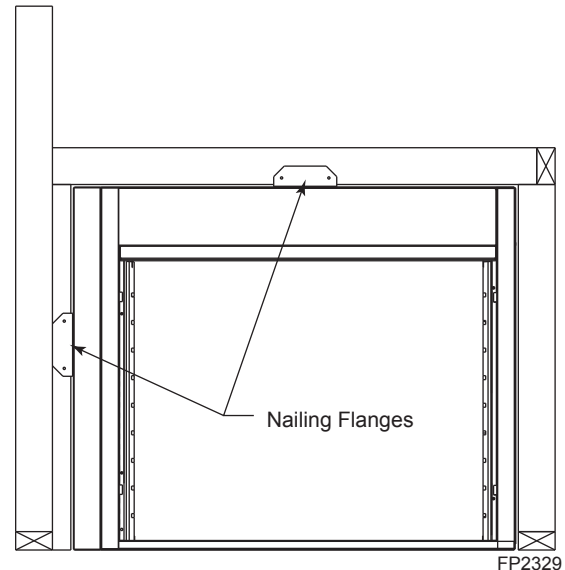

**Figure 16 -
1. Attach nailing flanges in desired position. *Figure 16*